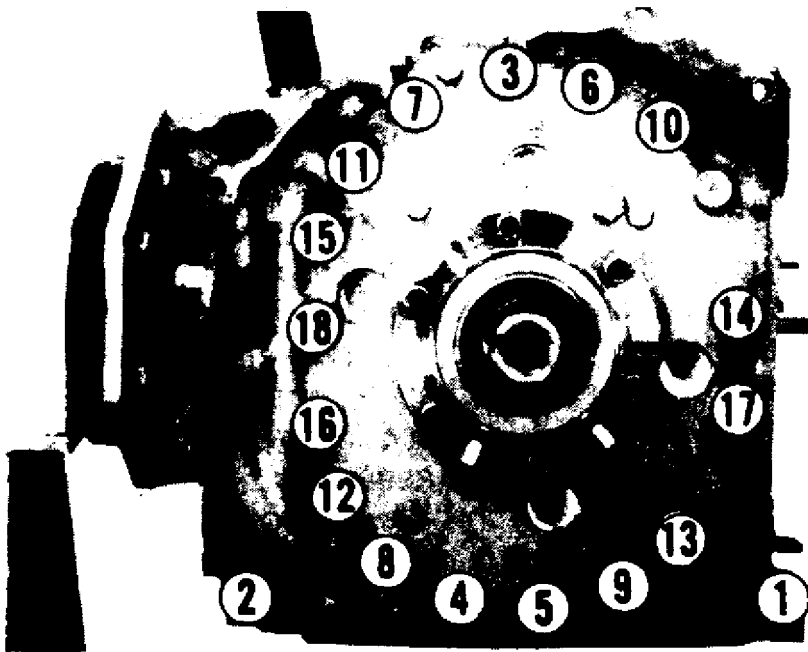

Fig. 3: Loosening Sequence of Tension Bolts
7) Remove tension bolts on rear housing in sequence. See Fig. 3. Loosen in 2 or 3 steps. Lift rear housing off shaft. Remove any seals stuck to rotor sliding surface, and place them back in original positions. Remove seals and "O" rings from face of rear rotor housing.